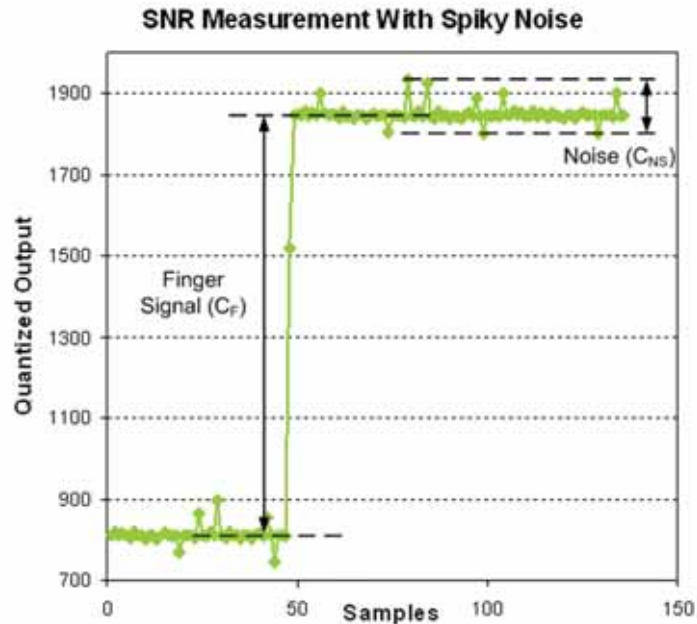

Figure 2: SNR measurement data for a mutual capacitance intersection with touch
As you can see in Figure 2, the finger signal (CF) is measured by taking the difference of the mean value of 100